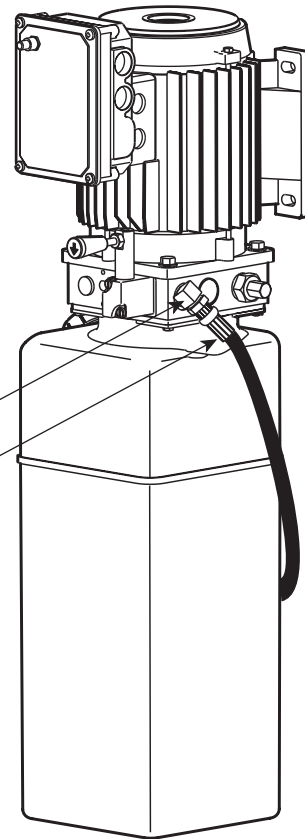
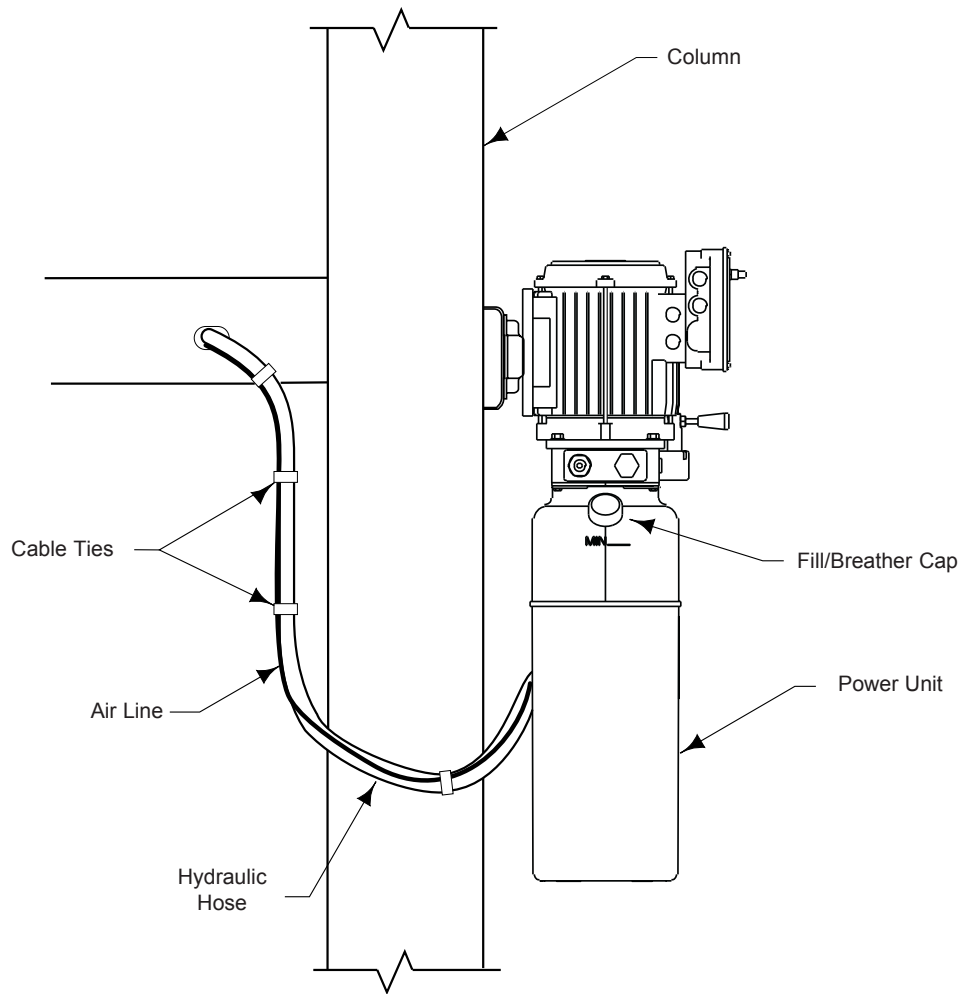
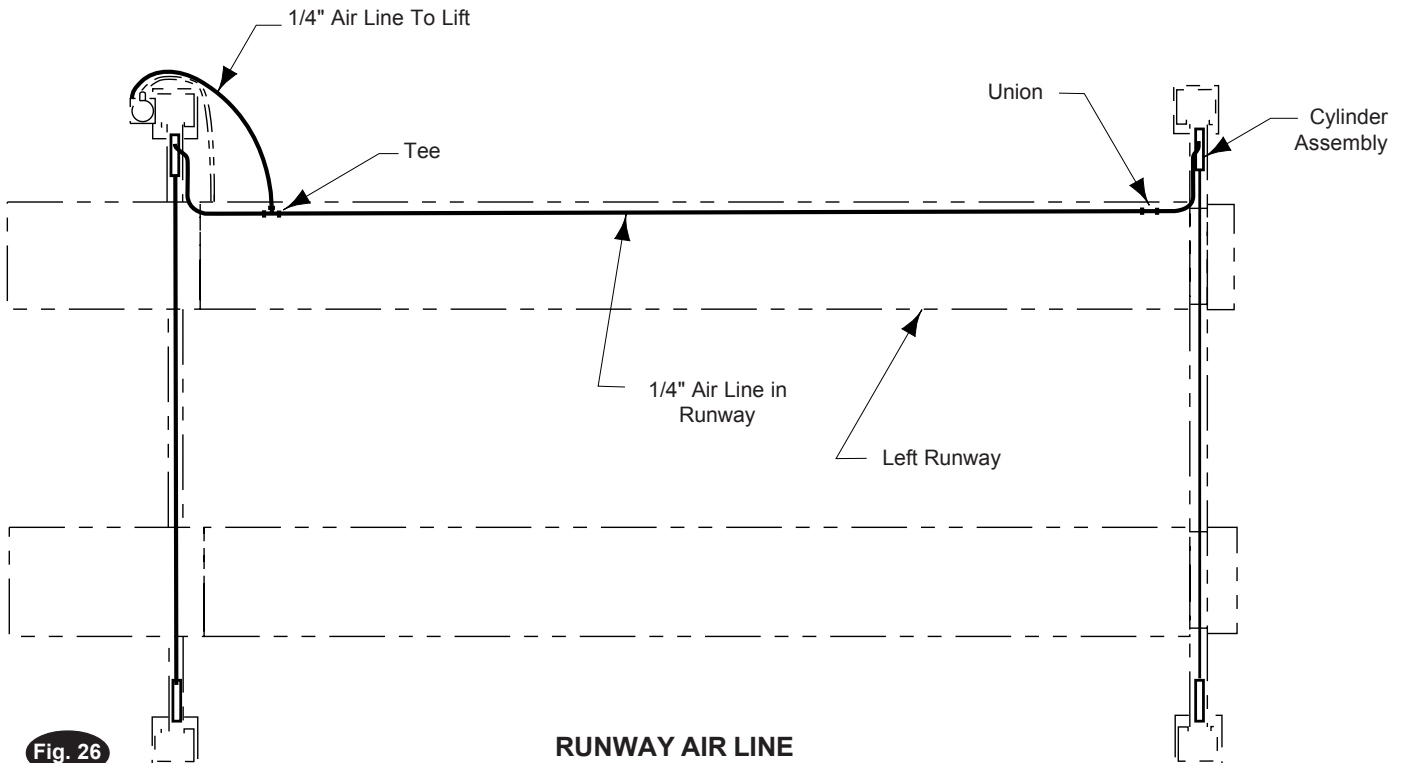

Fig. 17
Fig. 19
Fig. 26
- B. Mount power unit, with motor up, to column bracket and install lock washers and nuts. Run hydraulic hose from runway through slot in side of runway to power unit output port, Fig. 19. **DO NOT** use Teflon tape on hydraulic hose connections. Install and hand tighten elbow to pump until O-ring is seated and elbow should be oriented downward at approximately 45°, Fig. 17. Tighten locknut to 35-40 ft. lbs. Install enclosed Capacity label on power unit, Fig. 20.
12. Hydraulic Fluid Filling: System capacity is thirteen (13) quarts. Use Dexron III ATF. Remove fill/breather, Fig. 19. Pour in thirteen (13) quarts of fluid. Replace fill/breather. Start motor and raise lift to full rise. Lower onto latches.
Note: If fill/breather, Fig. 19, is lost or broken, order replacement.
- D. Attach enclosed NP280 decal ("PUSH TO RELEASE LATCHES") below button on air valve bracket, Fig. 17. Run 1/4" air line from air valve to the slot in the fixed runway. Cut airline and attach a Tee, Fig. 26.
- E. Run 1/4" air line from the Tee of the runway slot through the guide tubes on the inside wall of the runway to the Tee in the front yoke, Fig. 26.
To pressure test, run lift to full rise and run motor for approximately 5 seconds. Stop and check all fittings and hose connections. Tighten or reseal if required. Lower lift. If fill/breather, Fig. 19, is lost or broken, order replacement.